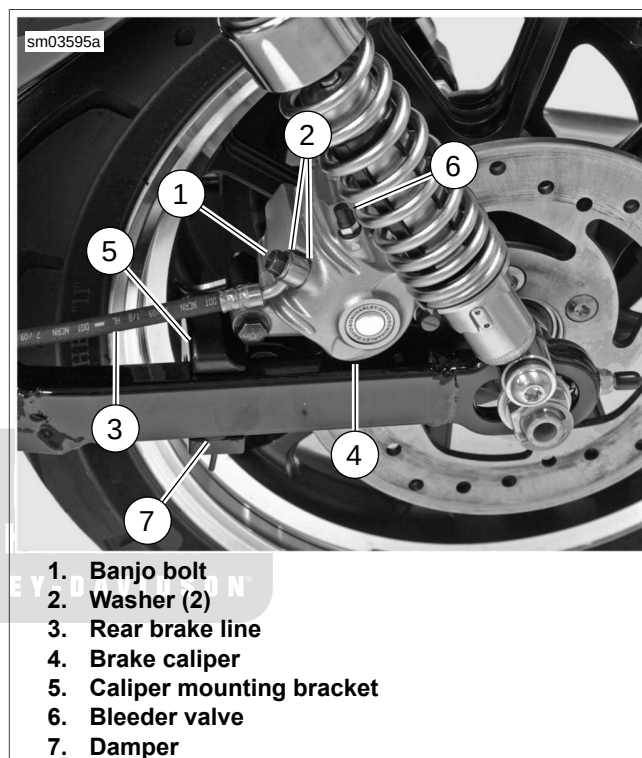

Figure 2-100. Rear Caliper Assembly
- See Figure 2-100. Remove the banjo bolt (1) and both washers (2) to detach rear brake line (3) from brake caliper (4). Discard washers.